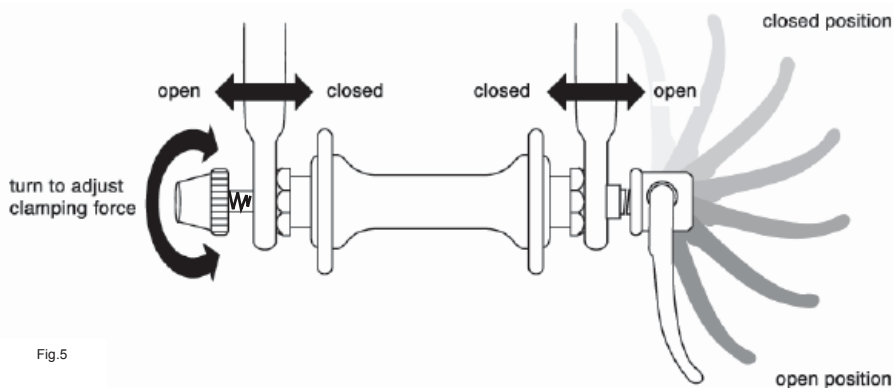
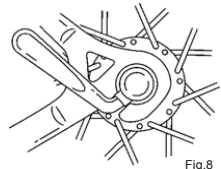

Fig.5
Fig.8
The wheel quick release uses a cam action to clamp the bike's wheel in place (see fig. 5). Because of its adjustable nature, it is critical that you understand how it works, how to use it properly, and how much force you need to apply to secure the wheel.
(3) Holding the quick-release lever in the OPEN position with your right hand, tighten the tension adjusting nut with your left hand until it is finger tight against the fork dropout (fig. 5).
(4) While pushing the wheel firmly to the top of the slots in the fork dropouts, and at the same time centering the wheel rim in the fork, move the quick-release lever upwards and swing it into the CLOSED position (fig. 5 & 6). The lever should now be parallel to the fork blade and curved toward the wheel. To apply enough clamping force, you should have to wrap your fingers around the fork blade for leverage, and the lever should leave a clear imprint in the palm of your hand.
- (1) Make sure that the rear derailleur is still in its outermost, high gear, position.
- (2) Pull the derailleur body back with your right hand.
- (3) Move the quick-release lever to the OPEN position (see fig. 5). The lever should be on the side of the wheel opposite the derailleur and freewheel sprockets.
- (4) Put the chain on top of the smallest freewheel sprocket. Then, insert the wheel up and back into the frame dropouts and pull it all the way in to the dropouts.
- (5) Tighten the quick-release adjusting nut until it is finger tight against the frame dropout, then swing the lever toward the front of the bike until it is parallel to the frame's chainstay or seatstay and is curved toward the wheel (fig. 6 & fig. 8). To apply enough clamping force, you should have to wrap your fingers around a frame tube for leverage, and the lever should leave a clear imprint in the palm of your hand.